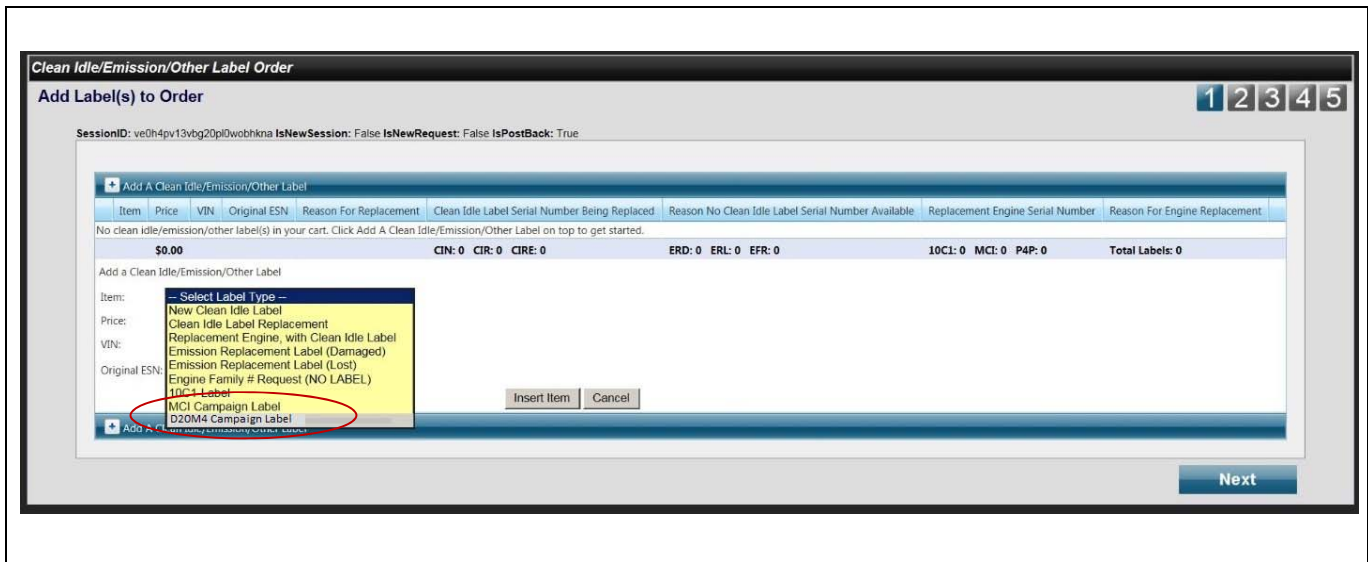

Fig. 10, Emission Label Ordering Process
3. Use the item drop-down menu and select “D20M4 Campaign Label.” See Figure 10.